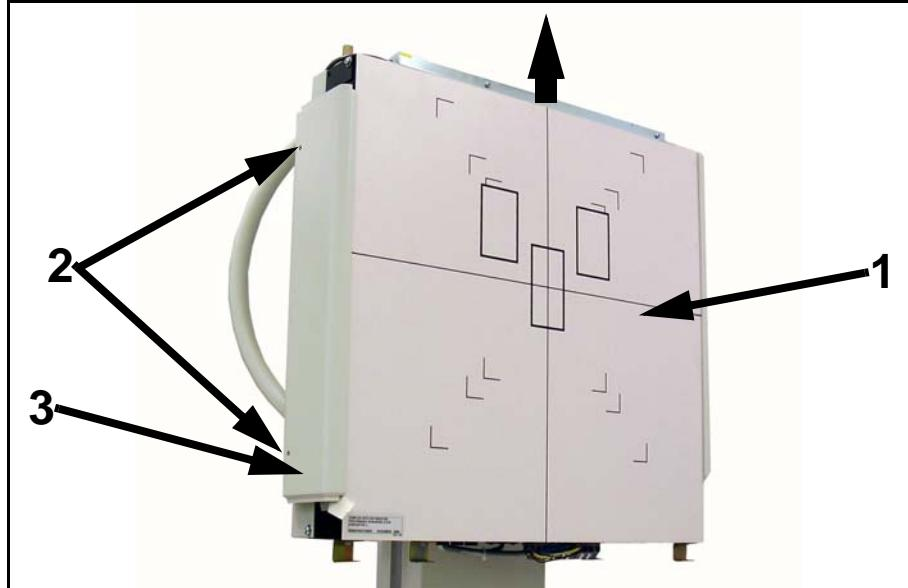

Figure 6-21. Side Panel & Front Panel
- 5 Slide the front panel (1 in Figure 6-21) straight up and off wallstand.
- 6 Unscrew two side cover screws (2) and remove side cover (3).